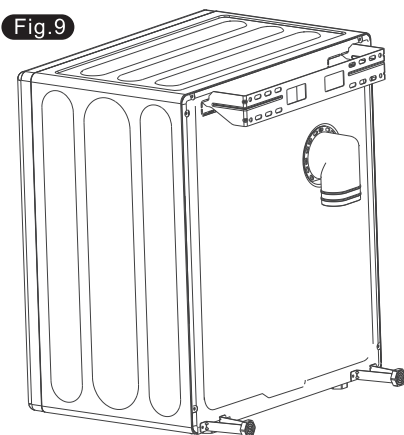

Fig.9
7. With assistance, carefully mount the Tumble Dryer on to the Hanging Bracket.(Fig.9)